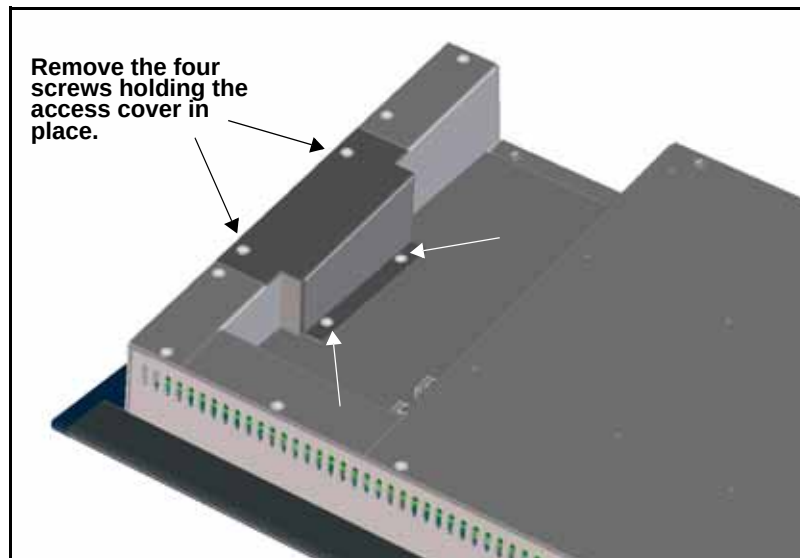

Figure 2-47. Removal of Access Cover
2. In the connector bay on the left side, remove the four screws that hold the fader bar access cover in place (see Figure 2-47).